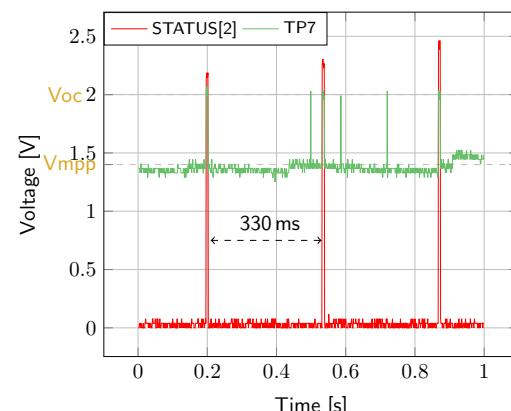

Figure 3: **TP7** and **STATUS[2]** while energy is extracted from **TP7** (**BATT** under **V_{ovch}**)
- **TP7**: Regulated at **V_{mpp}**, which is a voltage equal to the open-circuit voltage (**V_{oc}**) times the MPP ratio defined in Table 4. **V_{tp7}** equals **V_{oc}** during MPP evaluation (see Figure 3). Note that **V_{tp7}** must be higher than 380 mV to coldstart.
- **STATUS[2]**: Asserted each time the AEM40940 performs a MPP evaluation (see Figure 3).